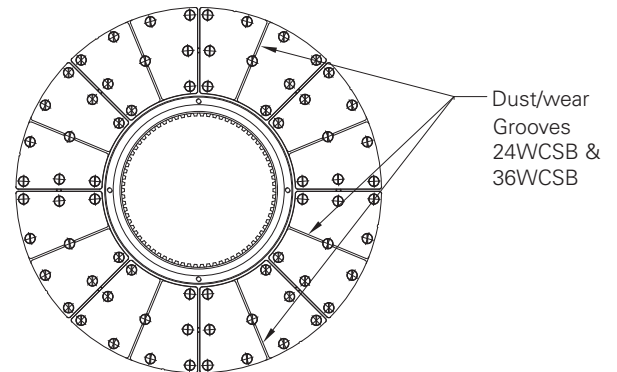

Figure 6
The friction material is fully worn when the wear has reached the bottom of the wear groove or notch as shown in Figure 6.
Verify that the air pressure has been fully exhausted from these chambers by checking any in-line gauges (they should read zero pressure), and also by inspecting specific gaps between components as noted below. Refer to Figures 6 and 6A for the corresponding gap locations.
- (d) Measure gaps between the components at positions W, X, Y-1, and if applicable, Y-2, and Y-3. See Figures 6, and 6a for the location of those gap positions.